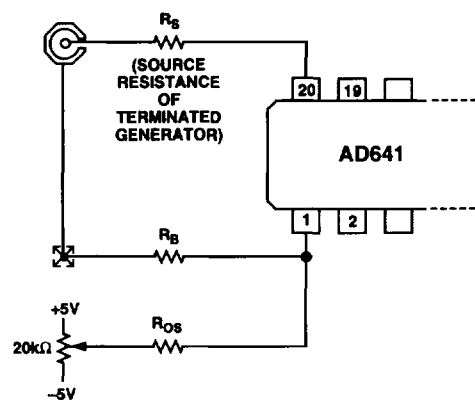

Figure 25. Optional Input Offset Voltage Nulling Circuit; See Text for Component Values
In most applications there will be no need to use any offset adjustment. However, a general offset trimming circuit is shown in Figure 25. R_S is the source resistance of the signal. *Note: 50 Ω rf sources may include a blocking capacitor and have no dc path to ground, or may be transformer coupled and have a near zero resistance to ground.* Determine whether the source resistance is zero, 25 Ω or 50 Ω (with the generator terminated in 50 Ω) to find the correct value of bias compensating resistor, R_B , which should optimally be equal to R_S , unless $R_S = 0$, in which case use $R_B = 5$ Ω . The value of R_{OS} should be set to 20,000 R_B to provide a ± 250 μV trim range. To null the offset, set the source voltage to zero and use a DVM to observe the logarithmic output voltage. Recall that the LOG OUT current of the the AD641 exhibits an *absolute value response* to the input voltage, so the offset potentiometer is adjusted to the point where the logarithmic output "turns around" (reaches a local maximum or minimum).
R4 is identical to R2, and in shunt with R3 ($270\ \Omega$ thin film) forms a $27\ \Omega$ resistor with the same TC as the output resistance of the attenuator. By connecting Pin 1 to ATN LOW (Pin 2) this resistance minimizes the offset caused by bias currents. The offset nulling scheme shown in Figure 25 may still be used, with the external resistor R_B omitted and $R_{OS} = 500\ \text{k}\Omega$. Offset stability is improved because the compensating voltage introduced at Pin 20 is now PTAT. Drifts of under $1\ \mu\text{V}/^\circ\text{C}$ (referred to Pins 1 and 20) can be maintained using the attenuator.
Cascaded AD641s can be used in dc applications, but input offset voltage will limit the dynamic range. The dc intercept is $6 \mu\text{V}$. *The offset should not be confused with the intercept*, which is found by *extrapolating* the transfer function from its central "log linear" region. This can be understood by referring to Equation (1) and noting that an input offset is simply additive to the value of V_{IN} in the numerator of the logarithmic argument; it does not affect the denominator (or intercept) V_X . In dc coupled applications of wide dynamic range, special precautions must be taken to null the input offset and minimize drift due to input bias offset. It is recommended that the input attenuator be used, providing a practical input range of -74 dBV ($\pm 200 \mu\text{V}$ dc) to $+6$ dBV (± 2 V dc) when nulled using the adjustment circuit shown in Figure 25.